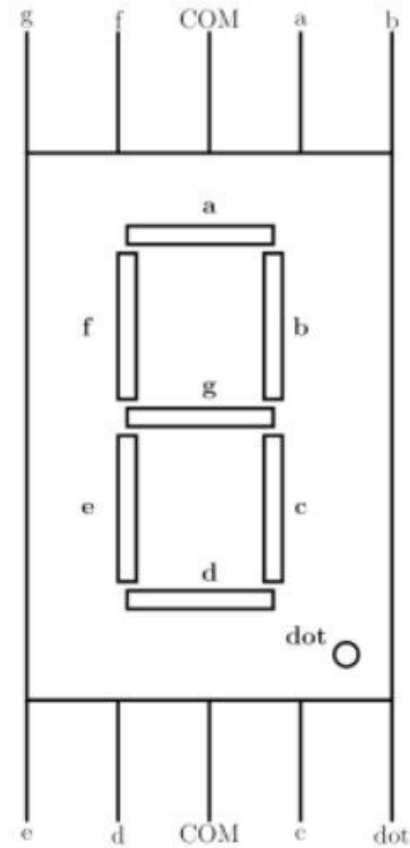

Fig. 6. Seven segmented display
- 6) The seven segmented display is then connected with the decoder (7447 IC) according to the table 5 and the figure 6